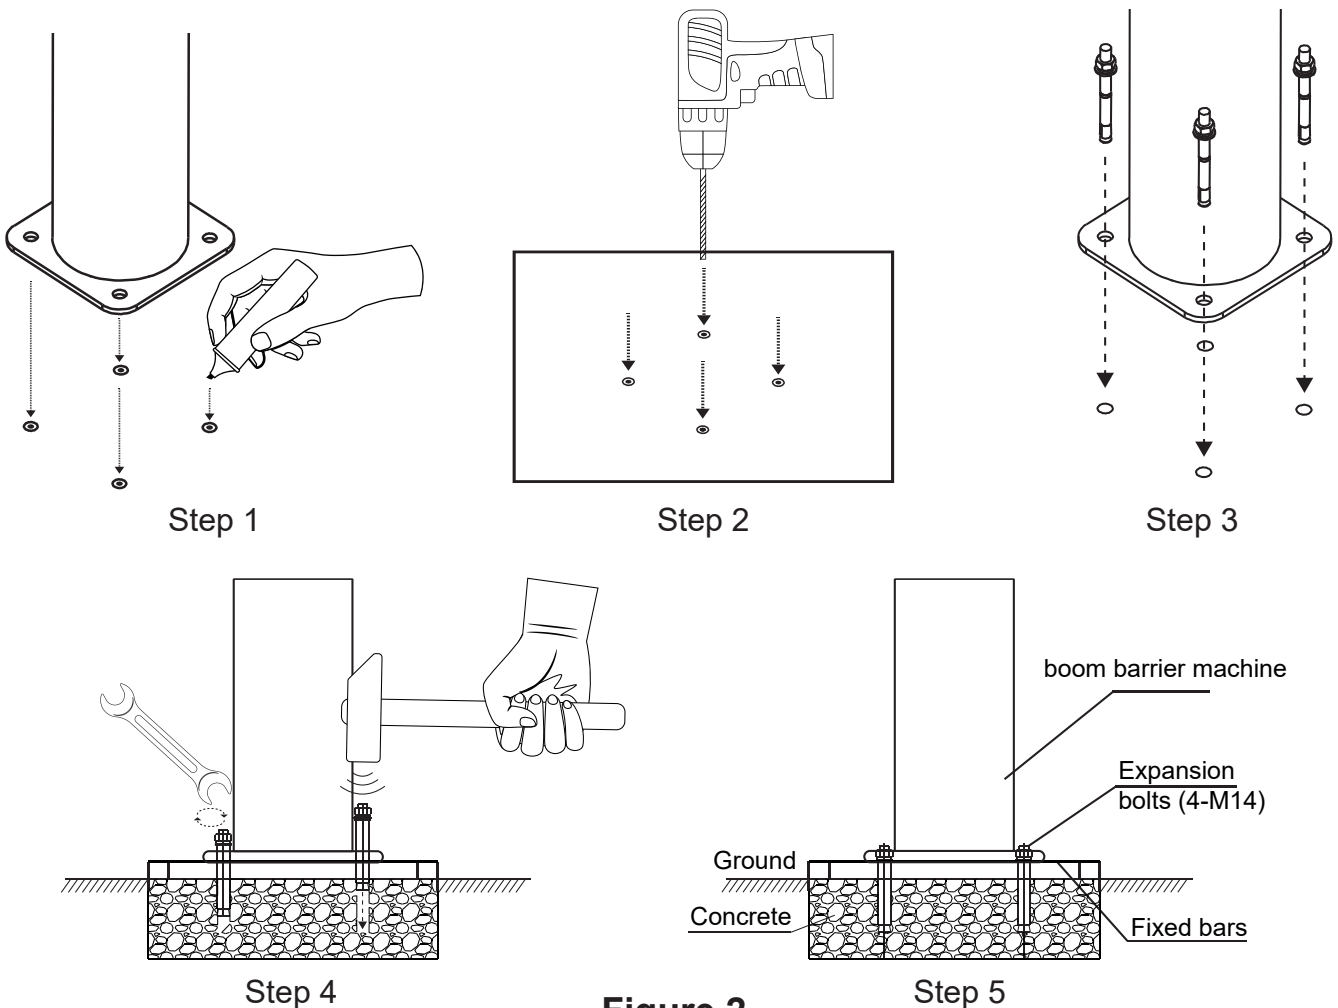

Figure 2
- (2) Put the boom barrier on the ground, usually use the pen to mark out the position of 4 pieces expansion bolts. Drill holes with electric drill based on the marked position of 4 pieces expansion bolts. After drilling holes, put the 4 pieces bolts into the holes, or strike the bolts into holes with hammer carefully. Then fasten the bolts well. Please refer to the Figure 2.(Step 1-Step 5)